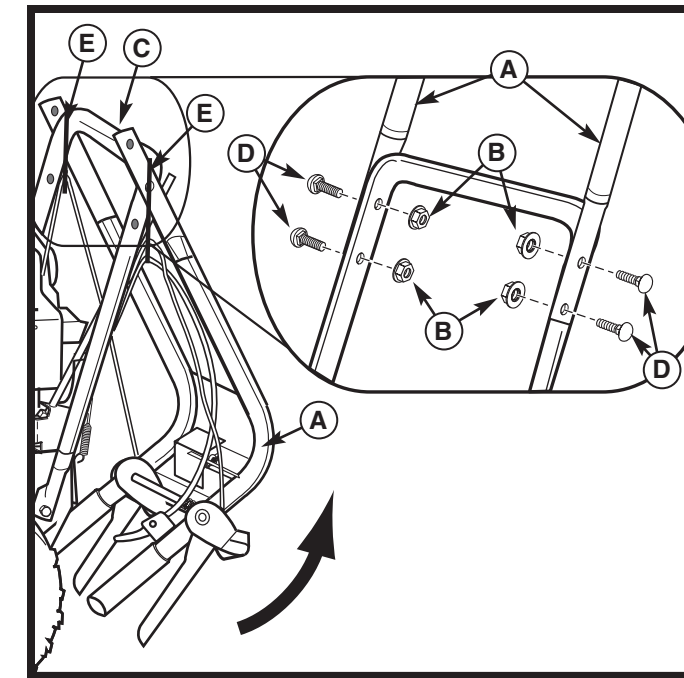

Figure 3
- Cut four orange zip ties (E, Figure 3) that secure control cables to handle assembly (C). Be careful not to cut or damage the control cables.